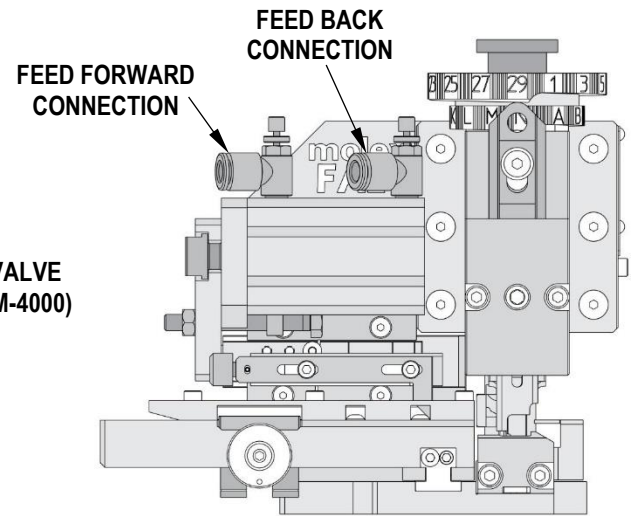

Figure 4.1.1
3. Pneumatic tubes must be connected as shown in Figure 4.1.1. Tubes are typically connected so the terminal feed is forward when the applicator ram is up.